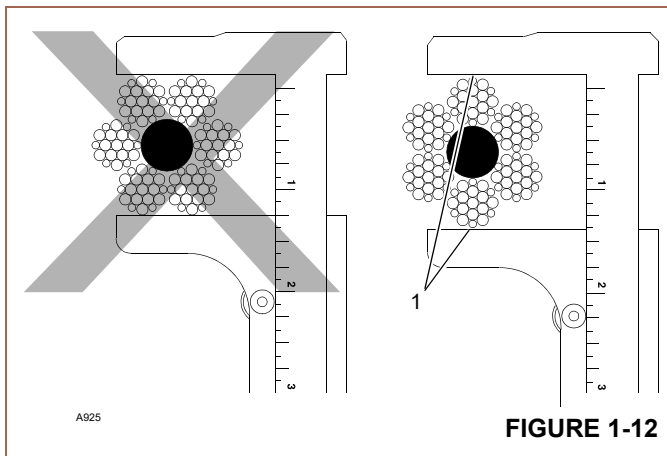

FIGURE 1-12
12. Measure the rope's diameter across crowns (1) of the strands when determining if rope has become damaged (Figure 1-12).